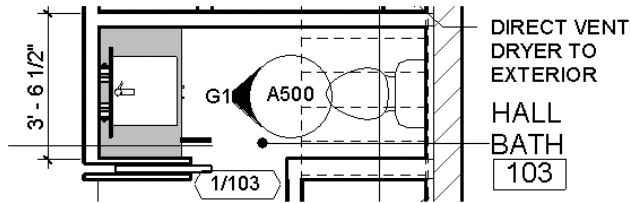

FIGURE 12.12 The updated room name in plan view
- You can edit existing information, like the names of the rooms. Change the name of 1/2 BATH to HALL BATH by clicking into its cell, deleting the old text, and typing the new text. Now open Floor Plans, Level 1, and zoom into the bathroom; you'll notice that the room name has updated in the plan (Figure 12.12)!